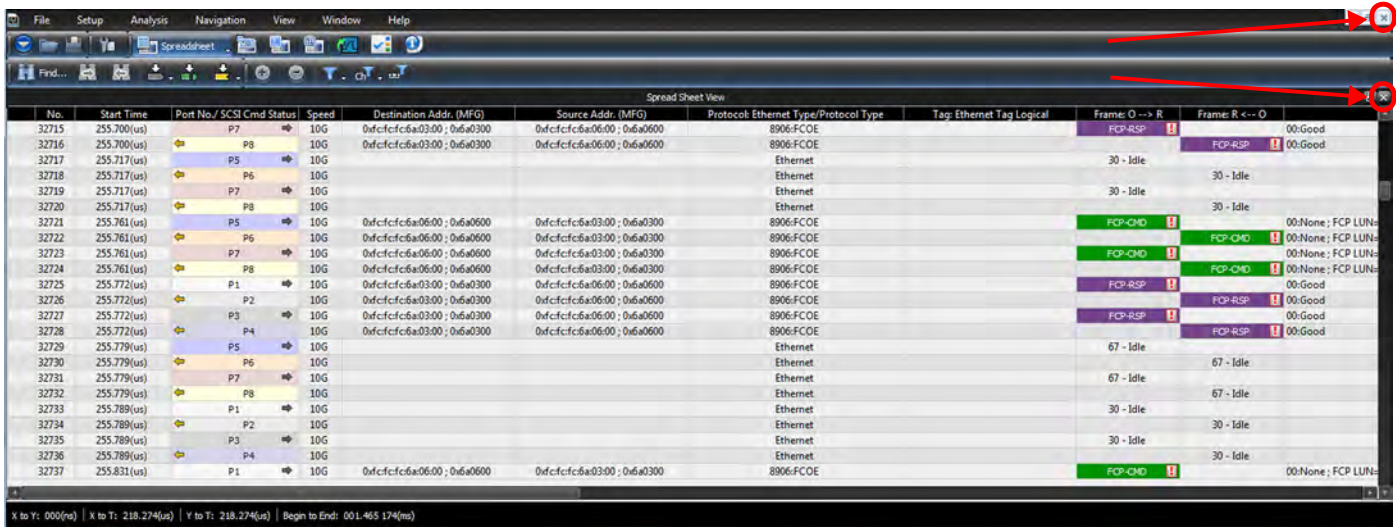

Figure 3.66: Deleting Trace and Project Windows
- To Save the changes made to the Column Headings, delete the Trace and the Project panes, so that only NetSuite Protocol Tool is open. See figures 3.66 and 3.67.